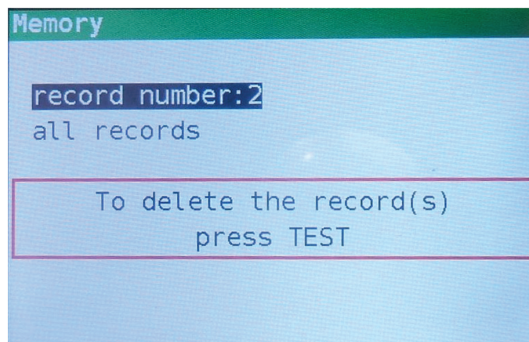

Figure 7.6: Delete screen
Step 3 Press the **RIGHT** key, the following screen will be displayed (Figure 7.6).